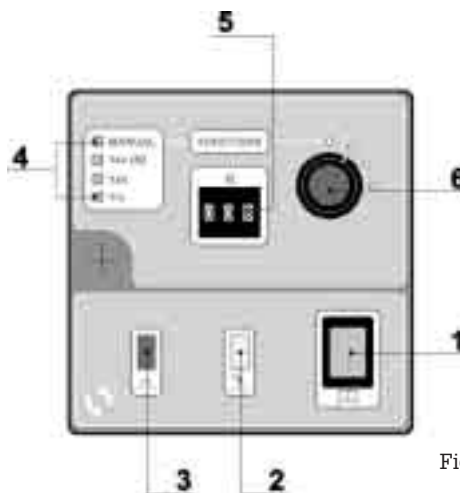

Fig. 20
8.2.3 - COMANDI POMPA PB-VFT (Fig. 20)